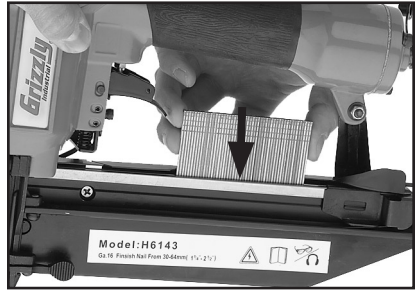

Figure 4. Loading nails into magazine.
3. Insert a strip of nails, pointed-end down, into the magazine as shown in **Figure 4**.